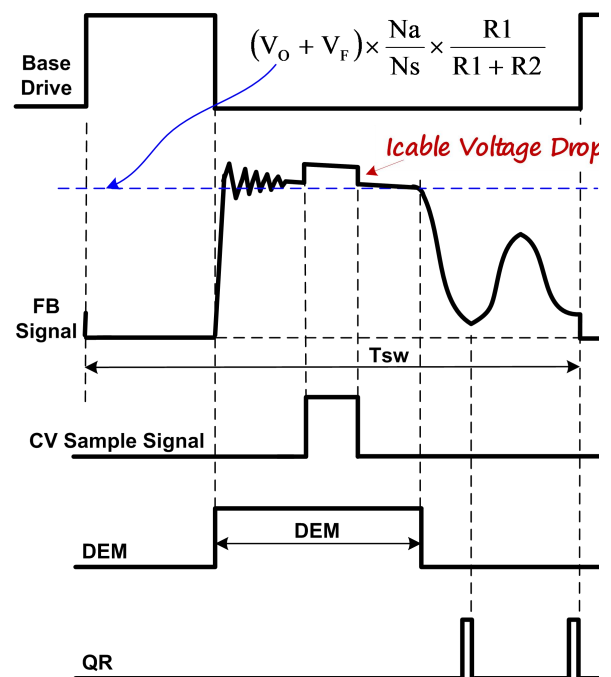

Fig.2
In Primary Side Regulation (PSR) control, the output voltage is sensed on the auxiliary winding during the transfer of transformer energy to the secondary. Fig.2 illustrates the timing waveform of CV sampling signal, demagnetization signal (DEM) and quasi-resonant (QR) trigger signal in DP2525D. When the CV sampling process is over, the internal sample/hold (S&H) circuit captures the error signal and amplifies it through the internal Error Amplifier (EA). The output of EA is sent to the Quasi Resonant PSR CV Modulator (QR-CVM) for CV regulation. A valley is selected to trigger new PWM cycle by the output of the QR-CVM block, which is determined by the load. The internal reference voltage for EA is trimmed to 2V with high accuracy.
demagnetization process, as shown in Fig.2. Fig.2 also illustrates the equation for “demagnetization plateau”, where V_o and V_F is the output voltage and diode forward voltage; R_1 and R_2 is the resistor divider connected from the auxiliary winding to FB Pin, N_s and N_a are secondary winding and auxiliary winding respectively.